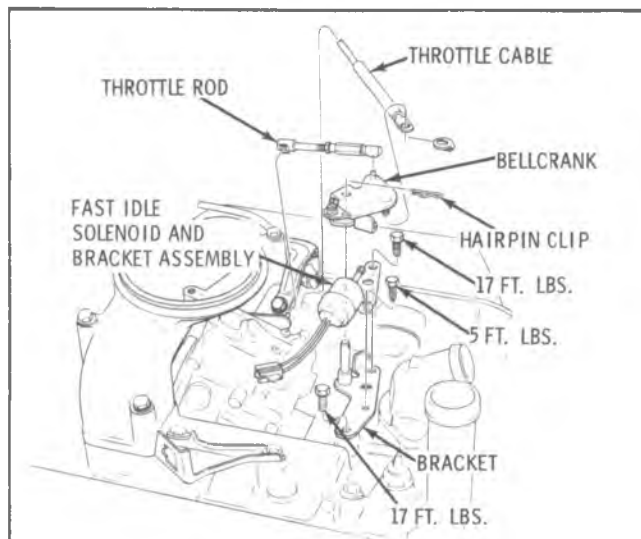

Fig. E-13—Throttle Linkage
4. Disconnect throttle rod and return spring. (Figs. E-13 and E-14)